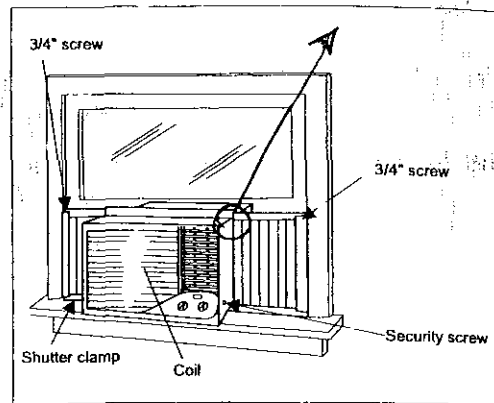

Fig 16
B. Reinstall the slide-out-chassis security screws (removed earlier) on both sides of the cabinet (Fig 16). Secure the top of the shutter frames to the window sash with (2) 3/4" screws.
C. Now, secure bottom frames of shutters using one shutter clamp and one 3/4" screw on each side (Fig 16).